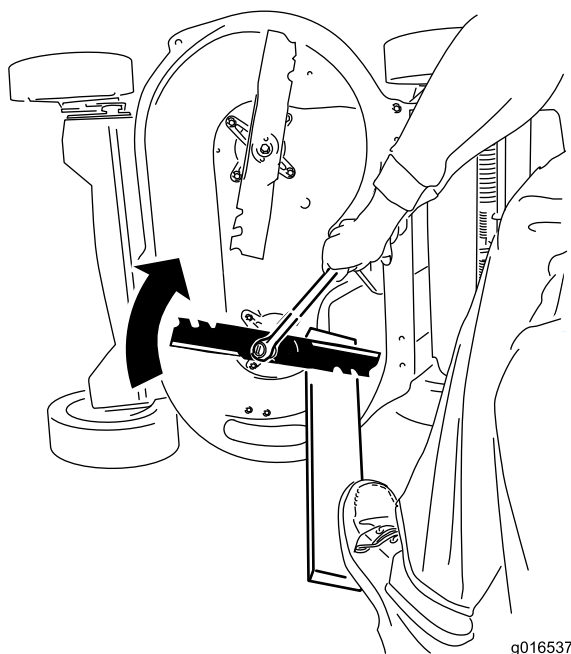

Figure 40
2. Steady each blade with a board and turn the blade bolt clockwise with a torque wrench as shown in Figure 40; torque each blade bolt to 82 N-m (60 ft-lb).